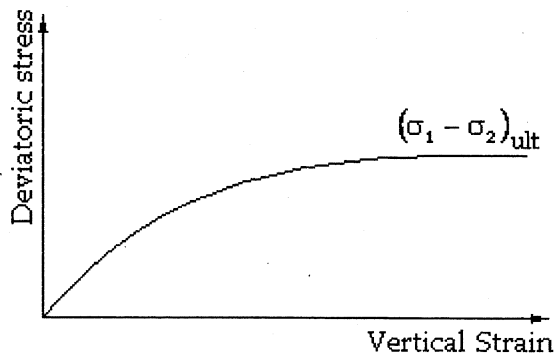

Figure 3B
- B. Figure 3B gives the result obtained during a Unconfined Compression (UC) test. Sketch the Total Stress Path (TSP) for this test. Name the axis. Sketch Mohr-Coulomb failure line. Explain why you aren't able to sketch the Effective Stress Path (ESP) for this test. (5 points)